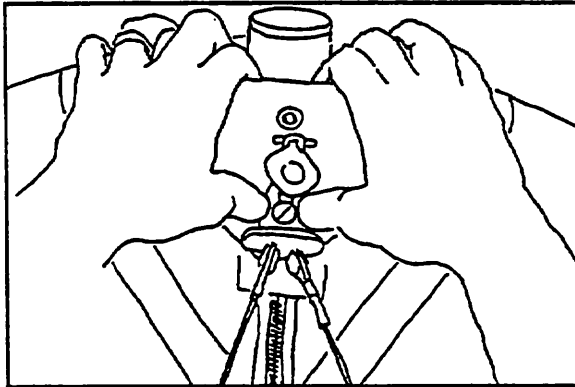

Figure 31
16) Attach the bottom front wires to the bottom of the nose, by pulling down on the nose of the glider while pressing the tang upwards over the shouldered bolt. (Remember, it is the pulling down of the glider's nose rather than the upward pressure on the tang that allows you to install the tang over the bolt. If you have difficulty with installing the tang, and no wires are twisted or thimbles cocked, it is probably because the glider is not sitting on level ground.) (Figure 31)